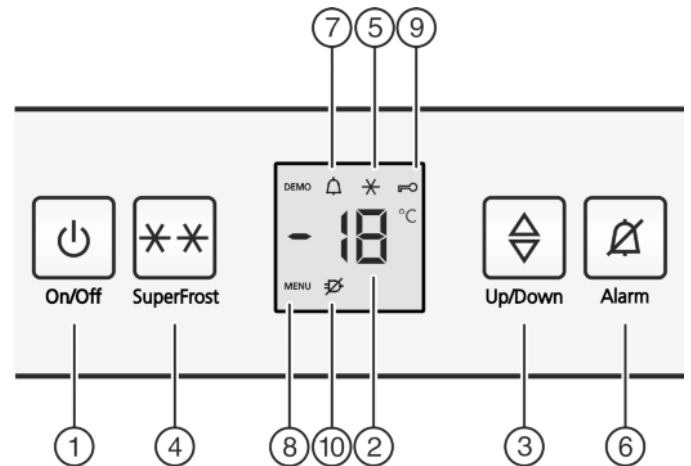

Fig. 2
- The SuperFrost symbol Fig. 2 (5) flashes together with the temperature display.*
- ▶ Press the On/Off button Fig. 2 (1).
- ▷ The appliance is switched on. The temperature display and Alarm symbol Fig. 2 (7) flash until the temperature is cold enough.
- ▶ Activate setting mode: press the SuperFrost button *Fig. 2 (4)* for approx. 5 seconds.
- ▷ The Menu symbol *Fig. 2 (8)* is shown on the display.
- ▶ Briefly confirm with the SuperFrost button, *Fig. 2 (4)*.
- ▷ The child lock symbol *Fig. 2 (9)*, lights up on the display.
- ▶ Briefly press the On/Off button *Fig. 2 (1)*.
- ▷ The child lock symbol *Fig. 2 (9)* goes out.
- ▶ Press alarm button *Fig. 2 (6)*.
The temperature display and the alarm symbol *Fig. 2 (7)* flash at the same time.
The audible alarm is automatically silenced, the alarm symbol *Fig. 2 (7)* goes out and the temperature display stops flashing when the temperature is sufficiently cold again.